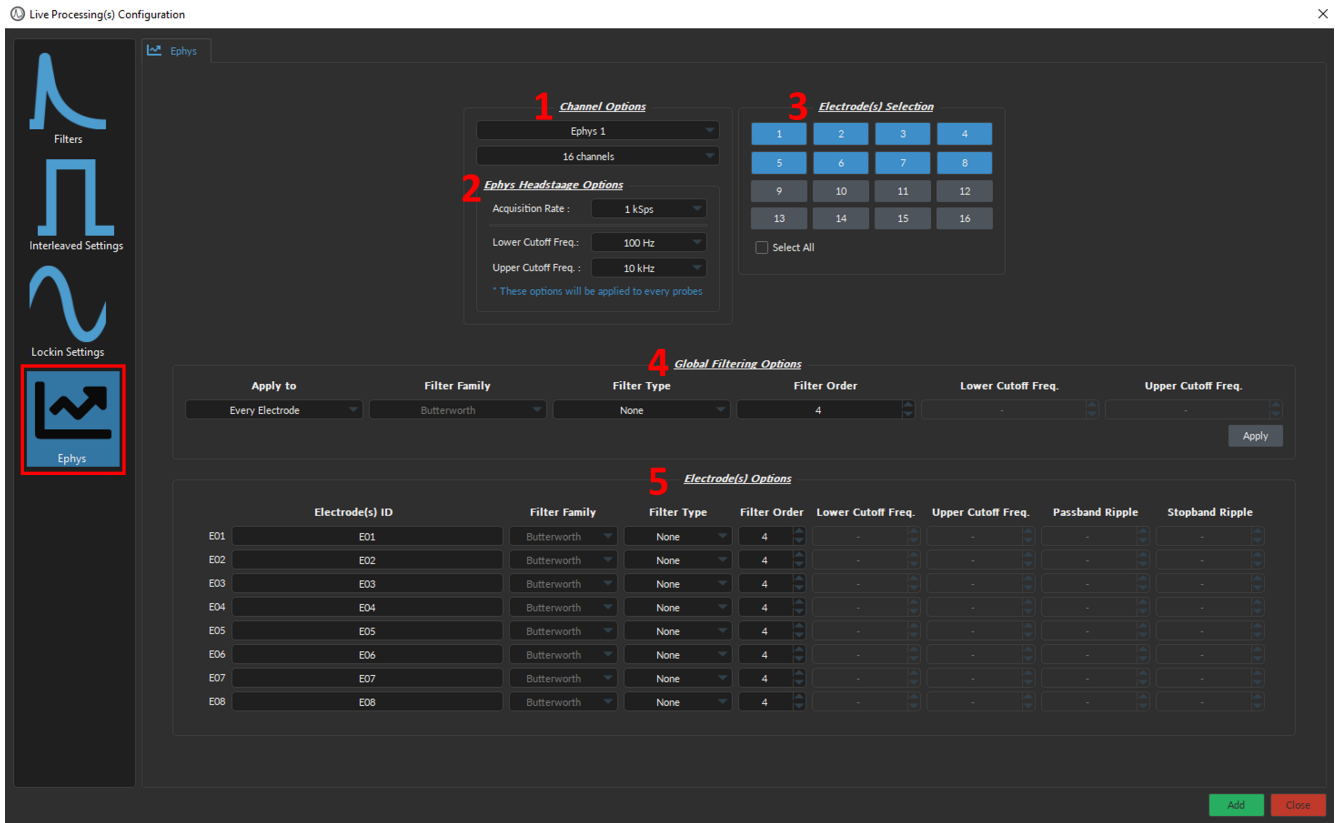
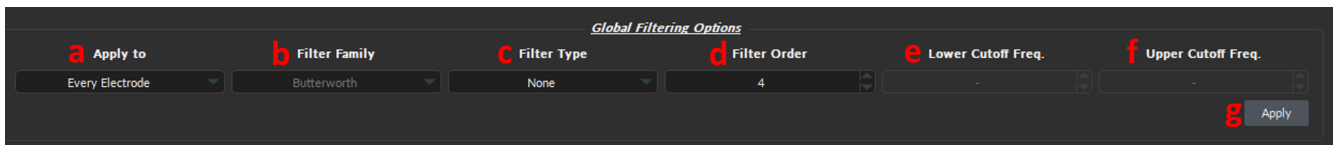

Figure 11.86: Live Processing, Ephys
Figure 11.87: Global Filtering Options
The **Ephys** presets allows users to set individual filter parameters for each electrode within a multi-electrode array. The **Live Processing Ephys** configuration is split into five sections (Fig.11.86):
1. The **Channel Options** (Fig. 11.86, 1) includes the following parameters:
2. The **Ephys Headstage Options** (Fig. 11.86, 2) includes the following parameters:
3. The **Electrode(s) Selection** (Fig. 11.86, 3) selects which of the total **Channel Number** are enabled (in blue). Allows users to disable (greyed out) broken electrode sites or electrodes that are not in the region of interest. No data will be collected from the disabled electrode(s). Use the **Select All** checkbox to enable all electrodes simultaneously.
4. The **Global Filtering Options** (Fig. 11.86, 4) include the following:
- a) The **Apply to** drop-down (Fig. 11.87, a) by default applies all the parameters in the **Global Filtering Options** to *Every Electrode* in the **Electrode(s) Options**. No other application options are currently available.
- b) The **Filter Family** (Fig. 11.87, b) is the *Butterworth* filter which is a common signal processing filter that is designed to have a frequency response that is as flat as possible in the passband (i.e. had no ripples).
- c) The **Filter Type** drop-down (Fig. 11.87, c) sets one of four available options, including:
- d) The **Filter Order** (Fig. 11.87, d) defines the ability of the filter to attenuate or suppress specific frequency ranges. Further, the filter order determines the sharpness of the transition band between the passband and stopbands. The **Filter Order** can be any value between 1-10.
- e) The **Lower Cutoff Freq.** drop-down (Fig. 11.87, e) defines the bandpass values, such that frequencies below the cutoff will be filtered from the data. This can be used to remove multi-unit activity, if unwanted.
- f) The **Upper Cutoff Freq.** drop-down (Fig. 11.87, f) defines the bandpass values, such that frequencies above the cutoff will be filtered from the data. Useful to remove high-frequency noise.
- g) The **Apply** button (Fig. 11.87, g) updates the parameters of every electrode in the **Electrode(s) Options** to match the ones specified in the **Global Filtering Options**.
5. The **Electrode(s) Options** (Fig. 11.86, 5) individually sets the filtering options for each electrode within the array. The number of rows corresponds to the number of enabled electrodes in the **Electrode(s) Selection** (in blue). The filtering parameters functionalities (Fig. 11.88, b-f) are the same as the ones defined above in the **Global Filtering Options** (Fig. 11.87, b-f).
- h) The **Electrode(s) ID** text-box (Fig. 11.87, h) assigned a more intuitive/informative label to each enabled electrode.